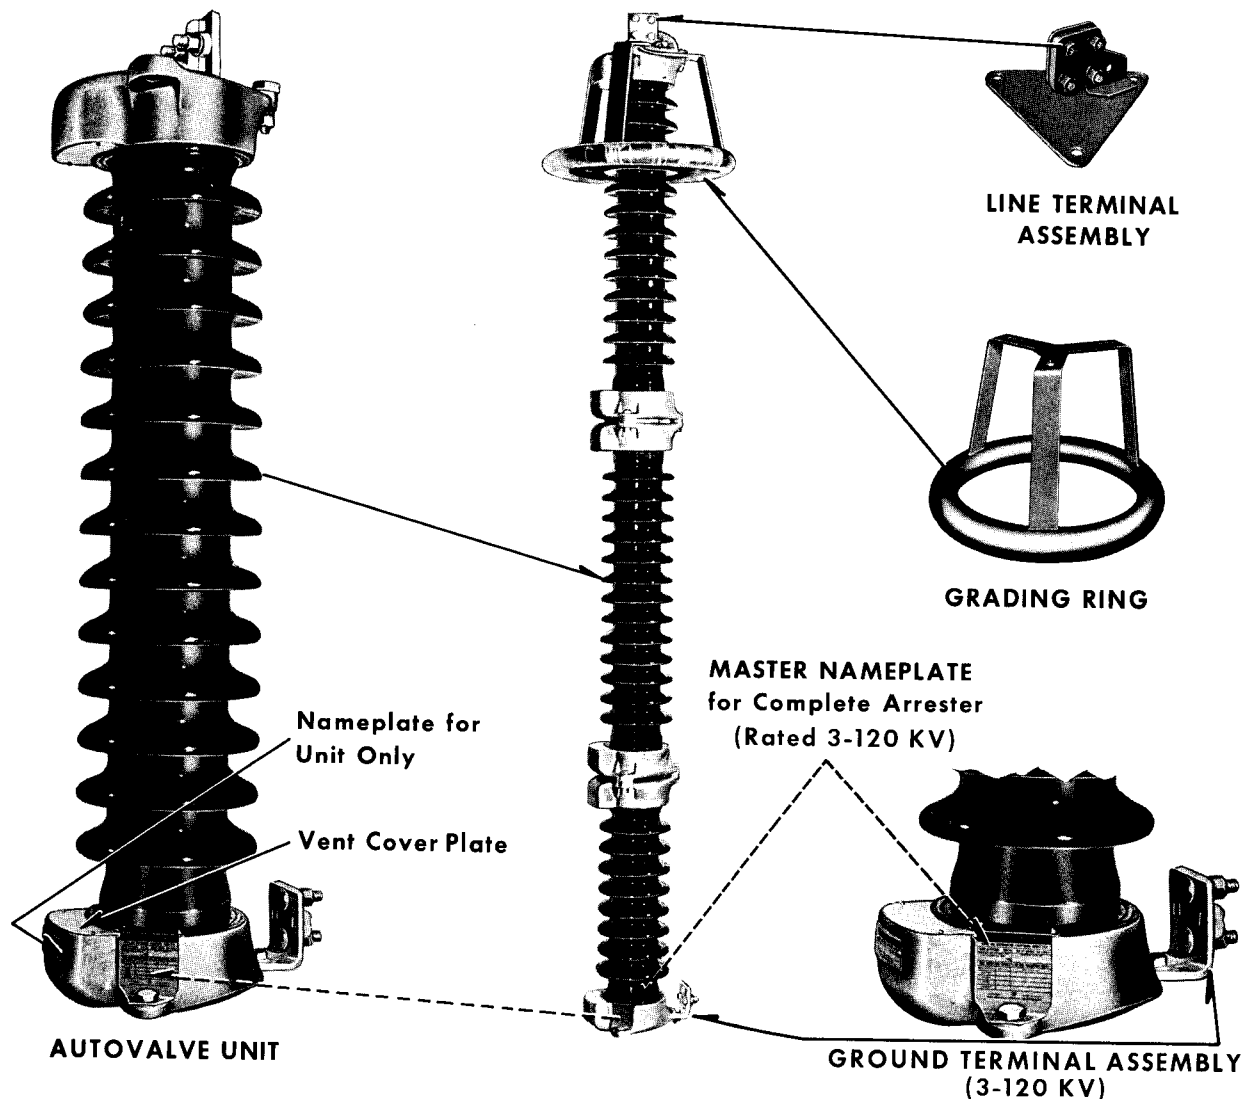
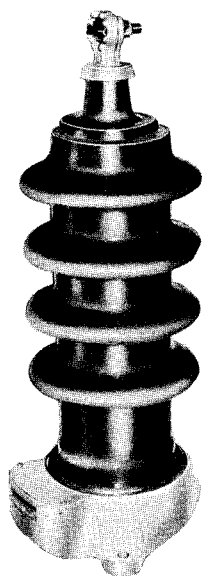

Fig. 1. Type IVS Autovalve Lightning Arrester and Component Parts
Fig. 2. Porcelain
1. Arrester Units. These are the porcelain housings, containing the operating parts. Each unit is an arrester in itself. Units rated 3-15 KV have porcelain tops (Fig. 2) with integral line terminal and should not be used in arrester poles of more than one unit. Units rated 3-40 KV with metal castings at each end (Fig. 1) may be used alone or in multiples until a maximum arrester rating of 120 KV is obtained.
a nameplate attached to its base casting (Fig. 1). This nameplate identifies and gives the rating of that arrester unit only and not the complete arrester. Necessary mounting hardware is in a sack tied to one end casting.
2. Line Terminal Assembly (Fig. 1). For use with arresters 90 KV and above.
3. Grading Ring Assembly (Fig. 1). Not used with arresters rated 72 KV and below.
6. Master Nameplate. An L shaped nameplate is supplied with arresters rated 3-120 KV (Fig. 1). This nameplate identifies by style number the arrester pole, its rating and the position of the individual units in the pole. This nameplate is not supplied with the porcelain top arresters 3-15 KV.